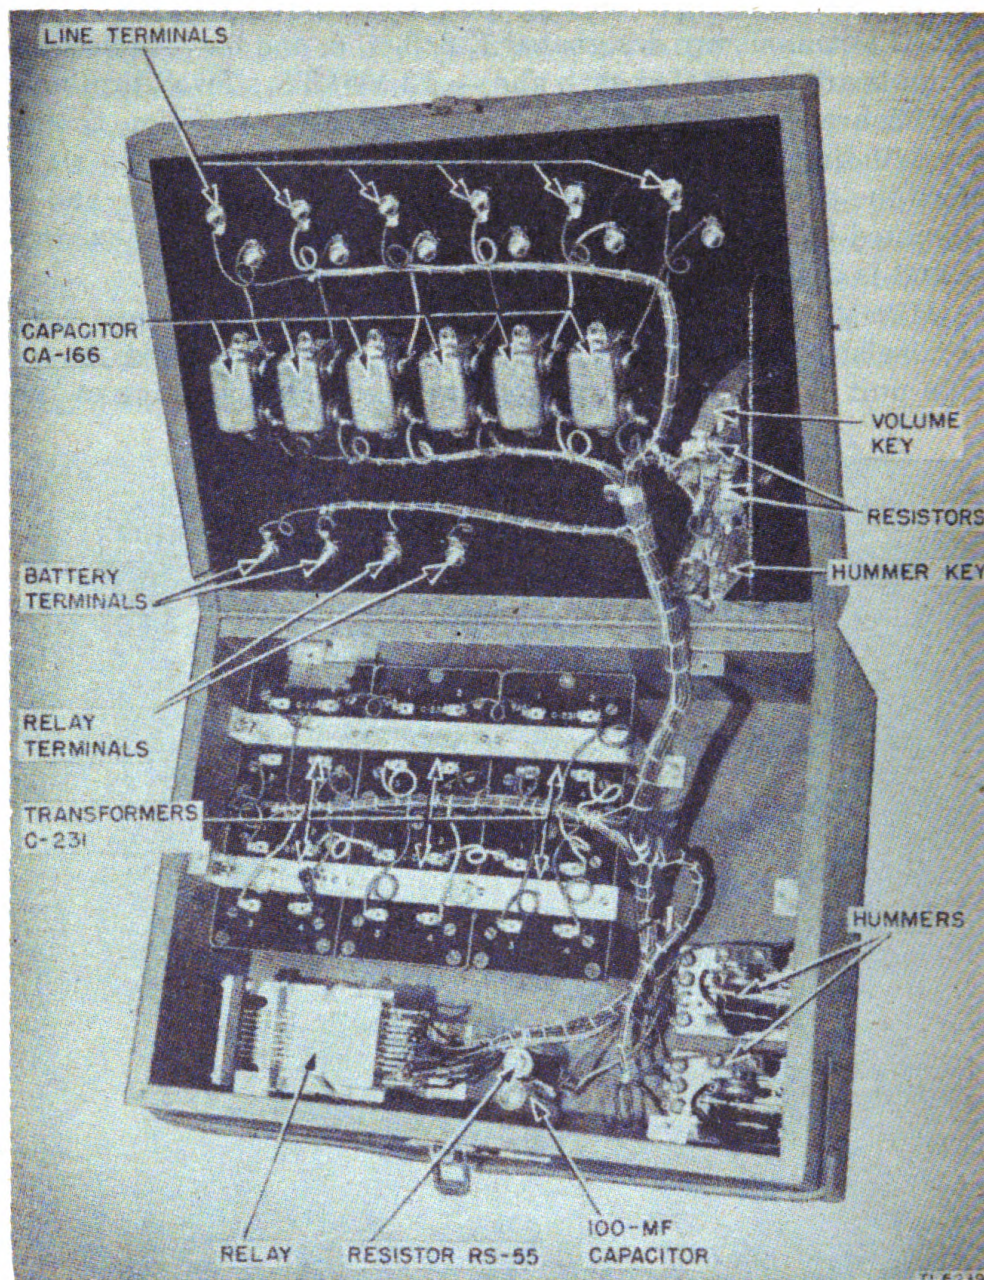

Figure 10. Mechanism of Line Connector Unit EE-87.
c. HUMMERS (fig. 10). The hummers are identical, when new, and consist of a tuned-reed vibrator and a carbon button microphone unit to pick up energy from the reed. The winding of the
*d. RELAY* (fig. 10). The relay in Line Connector Unit EE-87 is a multiple-type relay. This relay has seven knife contacts. The moving contacts are mounted on flat springs, each of which is an integral part of the relay armature.
e. TRANSFORMERS C-231 (fig. 10). Transformers C-231 are contained in individual metal containers. Connection to the two windings is made by four terminal lugs on the top of the transformer case. Transformers C-231 are mounted in the line connector unit in two rows of three transformers. The transformers are held in place by a mounting strap across each row, and are further secured by two screws through the mounting strap into each transformer. There are 350 turns on the primary or hummer side of each transformer and 850 turns on the secondary or line side of each transformer, giving a turn ratio of 1 to 2.43.
f. CAPACITORS CA-166 (fig. 10). Capacitors CA-166 are 0.1-microfarad paper capacitors used in the line connector unit. They